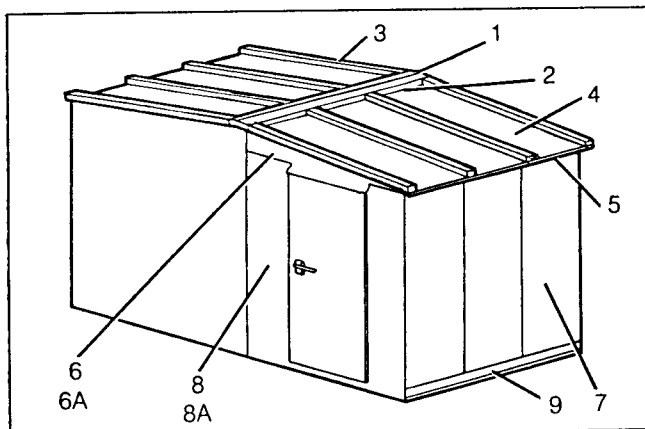
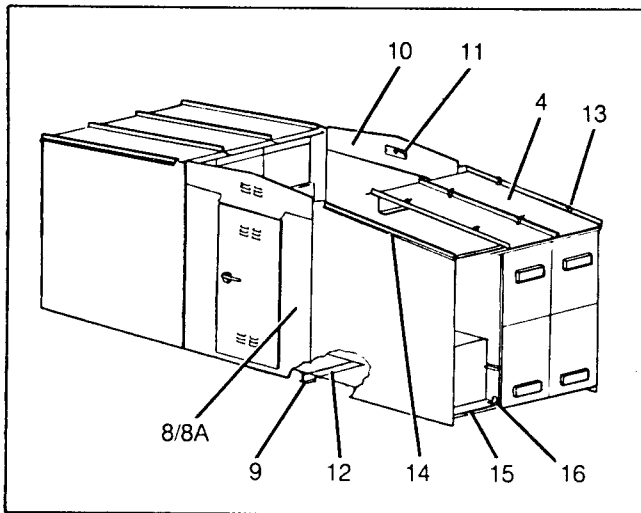
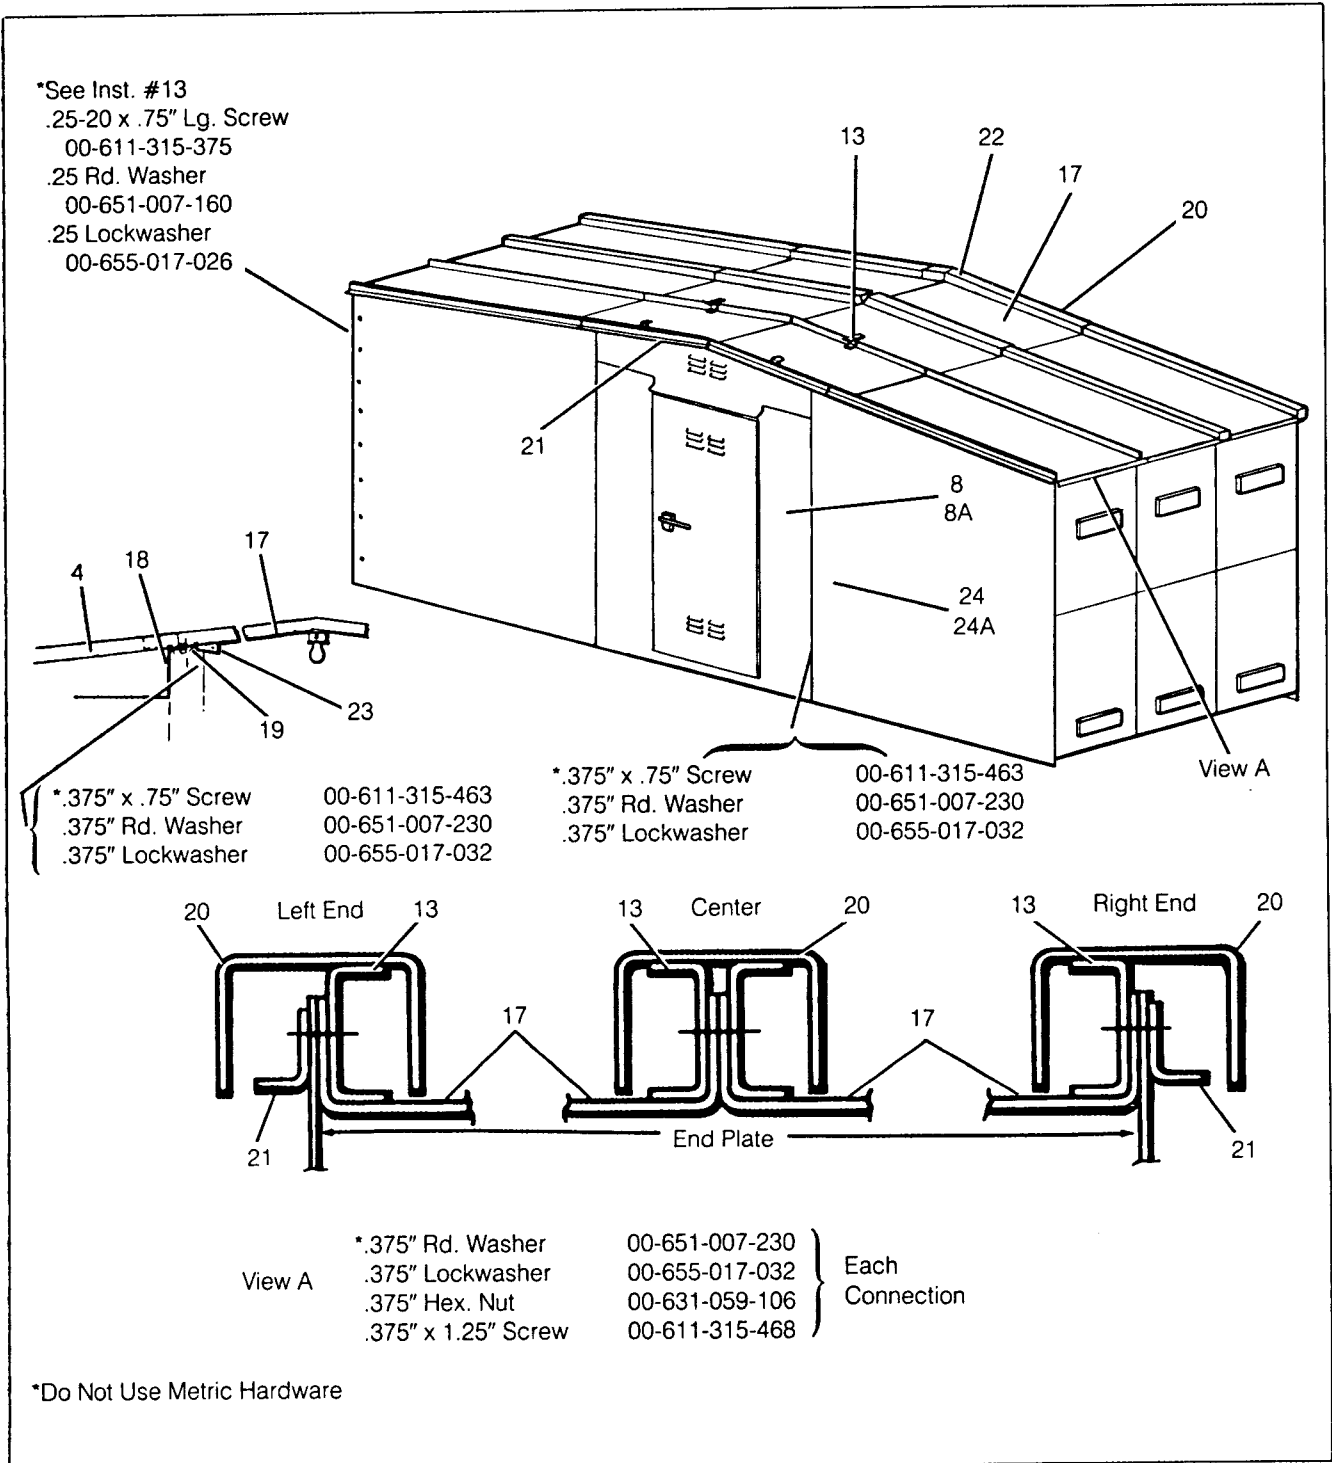

Figure 43. Removing Components From Existing Switchgear
Figure 44. Installing New Equipment
Figure 45. Roof Installation
1. See Figure 43. From the existing switchgear remove the gable ends (1), and roof gable (2). Discard these parts.
2. Remove the roof channels (3), roof covers over aisle (4), formed cover (5) and all associated hardware. On 5 kV switchgear save all these pieces. On 15 kV switchgear save only the cover (5) and associated hardware.
3. Remove and discard plates (6 and 6A) from above the door, each end, but retain filter (11).
4. Remove front plates (7) by unbolting from door frames (8 and 8A) and from I-Beam (9). Discard plates (7).
5. Move new switchgear into position as shown on the general arrangement floor plan. See Figure 44.
7. Install new plates (10). Mount filter (11) salvaged from plates 6 and 6A.
8. Install adaptor floor plates (12) between the new units and the I-beam (9).
9. Mount roof covers (4) on the new units, bolting together using special channel brackets (13) similar to the aisle construction just disassembled.
10. Add trim angle (14) at each end of the group. (On 15 kV equipment items 4, 13 and 14 are shipped assembled.)
11. When installing conduit, drill plate (15) to suit. Clamp plate with angle (16).
12. See Figure 45. Place aisle roof decks (17) in position. Bolt them to the roof support (18) using bevel washers (19). See inset.
13. Bolt roof decks (17) together with brackets (13). See view "A". Leave hardware finger tight until Step. 15. is complete.
14. Set channel-shaped covers (20) over the joints of roof decks and slide up the covers so the clips on the inner surface (see Figure 45) engage the brackets (13).
15. Add trim angle (21) to each end of the aisle. Tighten bolts.
16. Bolt hoods (22) over the roof channels.
17. Add four covers (23) to seal crack between top of door frame (8) and end plate (24 and 24A) joint. Mount light as shown.
1. Remove end gable assembly (1, Figure 43) from single aisle equipment. Remove the end hood (22, Figure 45) if switchgear has a common aisle.
2. Remove the channel-shaped covers (20) over roof joints from both aisle and switchgear unit. Do this by removing hardware from peak end of the cover and sliding the cover towards the eave to disconnect the holding clips on the underside of the cover.
3. Remove the trim angle (21) from the outer edge of the roof deck and remove the channel support brackets (13).
13. Mount unit side plate and using side plate as template drill #7 (.201") (5.1 mm) dia. holes in back frame angle of new cubicle. Using .25-20 (do not use metric tap) tap cut threads in these holes. Add and secure hardware (see Figure 45). The addition of these holes may be omitted if existing cubicle had vertical corner trim angle in which case side plate would not have these extra holes.